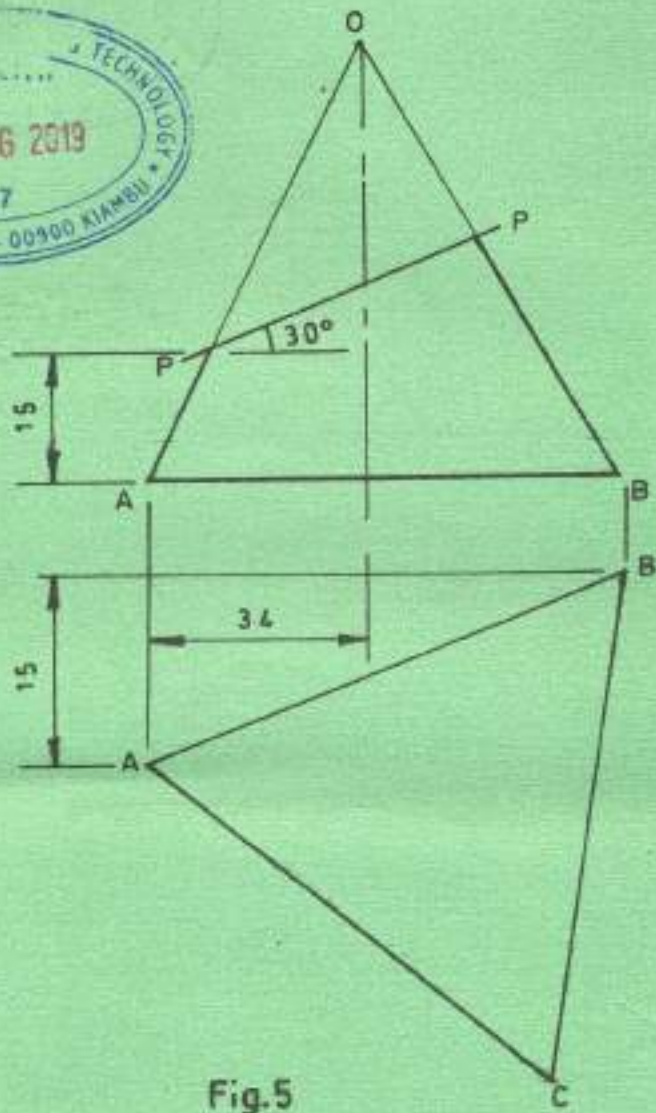

Fig.5
5. Figure 5 shows a triangular pyramid cut by a cutting plane P-P as show.